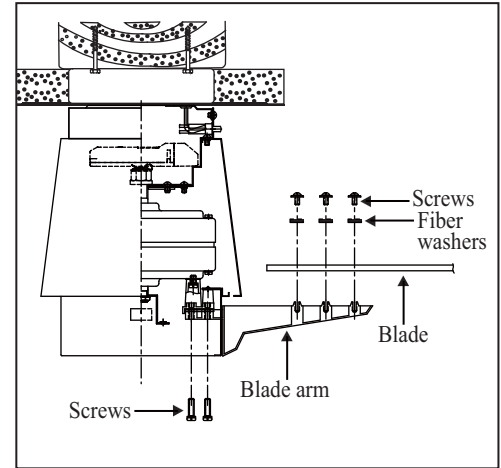

Figure 9
1. Attach the blades to the blade arms using three decorative nuts, screws and fiber washers as shown in Figure 9. Start a screw into the blade arm, do not tighten. Repeat for the 2 remaining screws and washers.